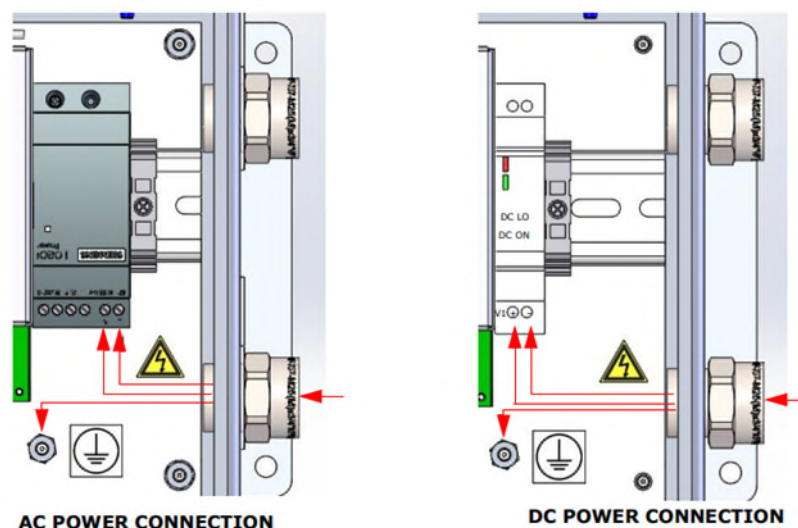

Figure 8. AC/DC power connections
3. For AC systems, pull ground, neutral (N), and L1 wires into the electronics enclosure. Refer to Figure 8. For DC systems, pull VI +, - and ground wires into the electronics enclosure. Refer to Figure 8.